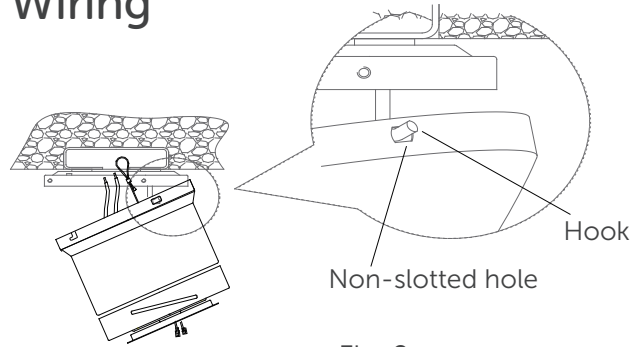

Fig. 2
- Raise canopy-motor assembly to mounting plate's hook and hang by the screw hole on the canopy. This will allow for hands-free wiring. With the fan assembly hanging off the mounting bracket's hook, follow wiring instructions (Fig. 2).